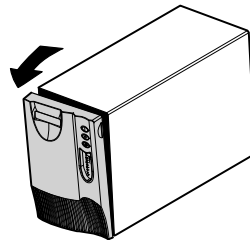

Figure 23. Removing the UPS Front Cover
1. Remove the UPS front cover (see Figure 23).